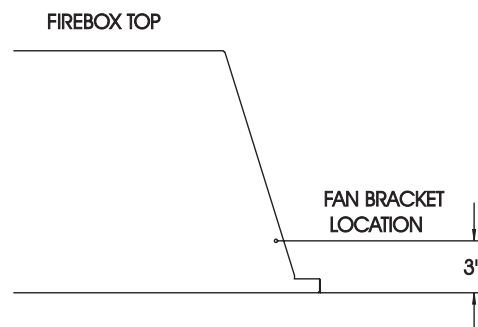

Figure 13
4. Centered in the rear are two (2) weld studs which protrude upward into the bottom of firebox for attachment of fan.
6. Align and place front set of clearance holes on fan mounting bracket onto two (2) weld studs.
7. Use two (2) wing nuts to attach blower to weld studs.
8. Located in the right, front are two (2) weld studs which protrude upward into the bottom of firebox for attachment of speed control.
9. Insert speed control into interior, bottom of firebox. Align and place two (2) clearance holes on speed control onto two (2) weld studs.
10. Use two (2) wing nuts to attach speed control to weld studs.
12. Refer to Figure 13 for mounting hole location on right side of firebox top. Measure from front edge of firebox top to determine mounting hole location. Remove appropriate screw from firebox top.